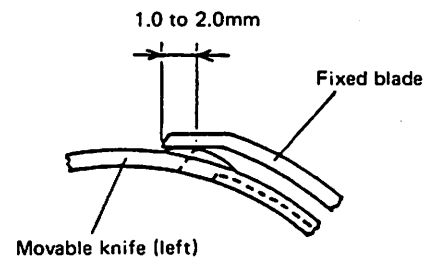

Fig. 12
(2) Adjustment of knife engagement amount
- ① Set the solenoid to the operation state and rotate the sewing machine. Then, the movable knife (left) is rotated by the thread trimmer cam. When the movable knife (left) has moved to the maximum, the standard engagement amount is 1.5 to 2.0 mm. See Fig. 12.
- ② Make adjustment by the installation of knife driving crank.